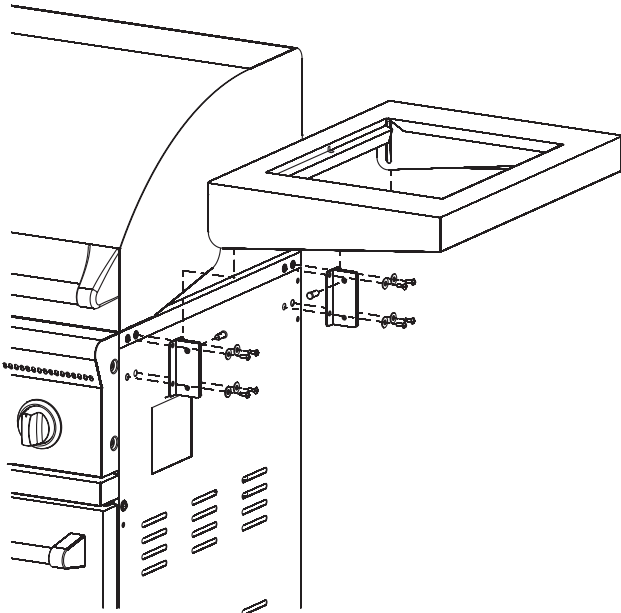

Figure 5
10. Pull clips off the pin which attaches the side shelf mounting bracket to the side shelf and remove pin. Remove brackets from side shelves. Attach two side shelf brackets to each cart side with four (4) lock washers and 1/2" screws per side shelf bracket. See Figure 5.
11. Insert and attach side shelves into side shelf brackets with one pin and clip into the top opening on each side. See Figure 5.